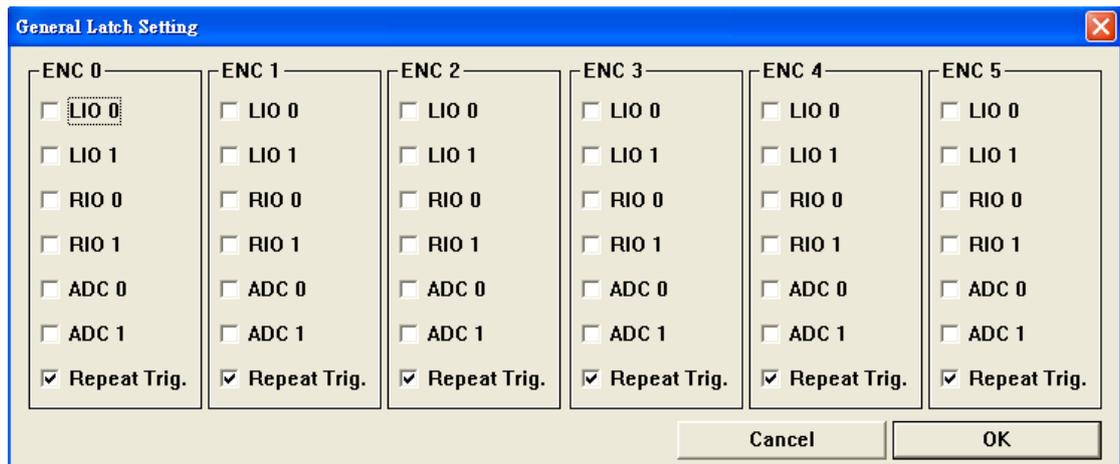

Figure 4-4.3
(3) Set general index latch (as shown in Figure 4-4.3)